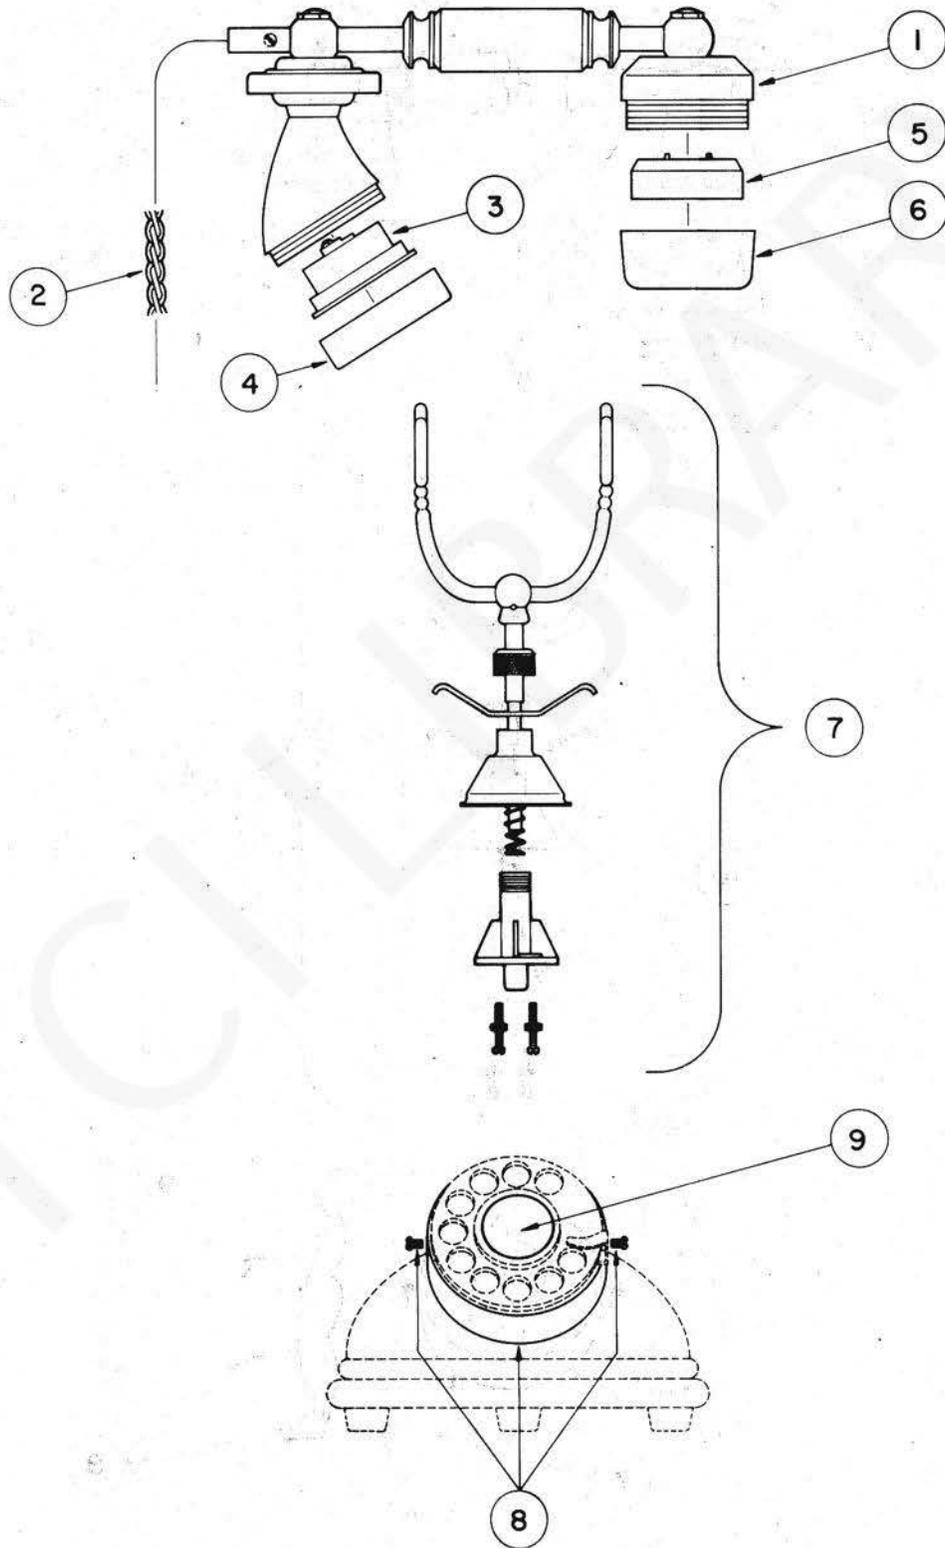

Fig. 9 — Exploded View of MD9151 Telephone Set (Romantique)
**IDENTIFICATION OF PARTS (Fig. 9)**